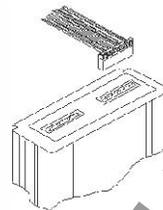

Figure 7: Umbilical Cord
- Insert test set end of umbilical cord into slot on top of module as shown by label on module. The umbilical cord is inserted with cable toward rear of module as shown in figure 7.